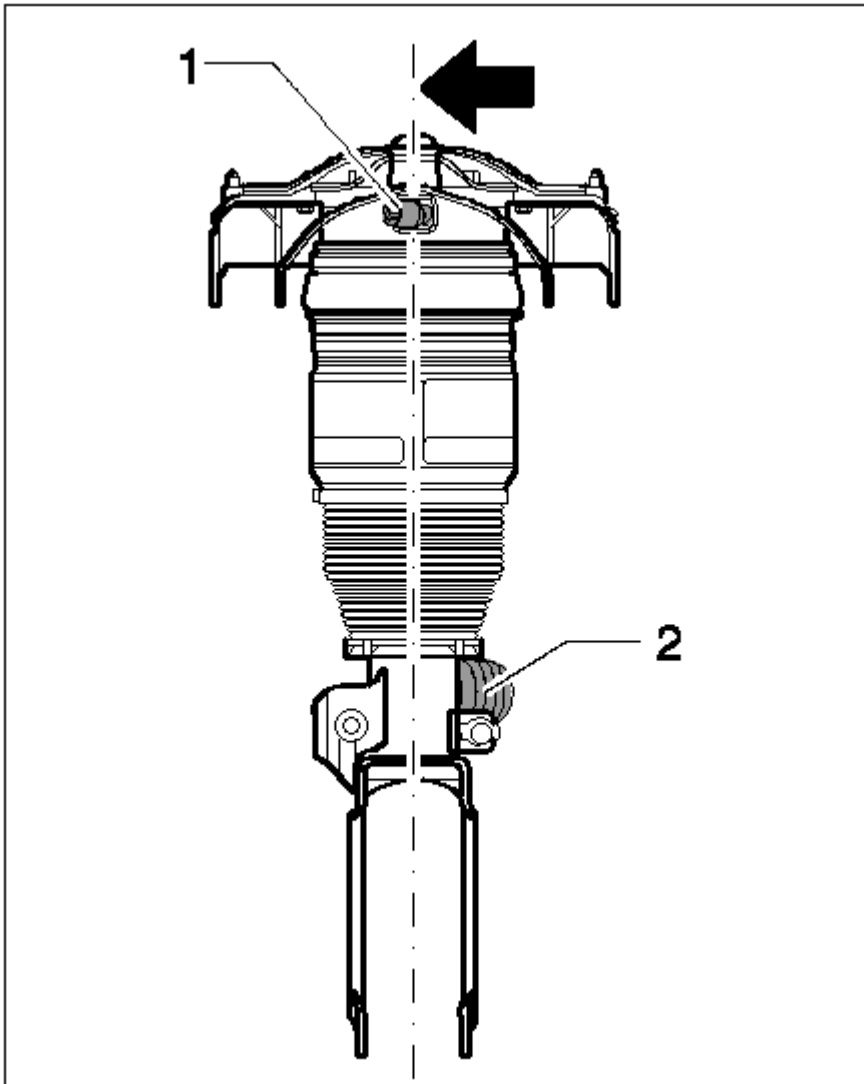

Fig. 49: Aligning the mounting saddle
10. Align the air spring again so that the residual pressure retaining valve is located exactly at the axis of symmetry -**Arrow**- of the air-spring strut. See **Fig. 49**.